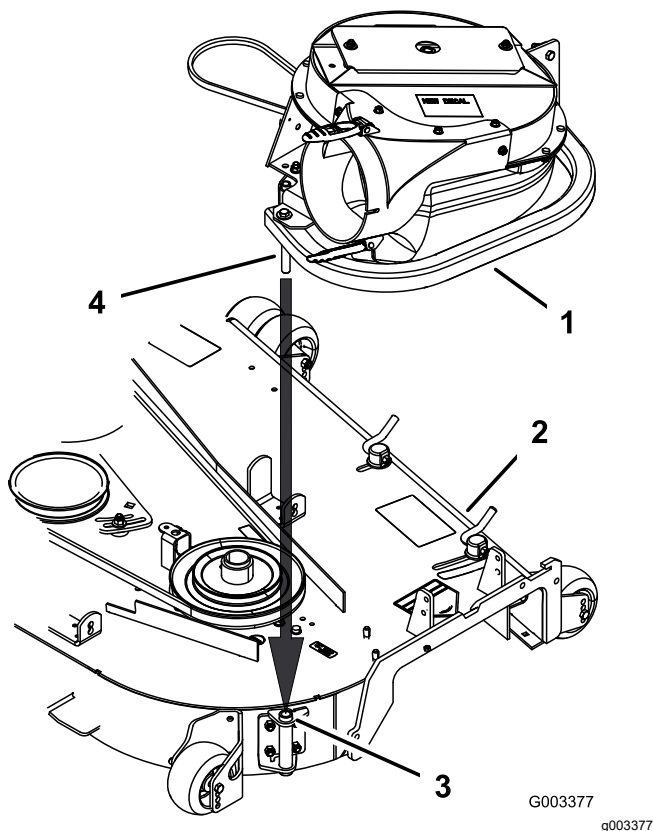

Figure 14
2. Slide the blower-assembly peg into the pivot hole. For 152 cm (60 inch) mowers refer to Figure 13 and for 183 cm (72 inch) mowers refer to Figure 14.